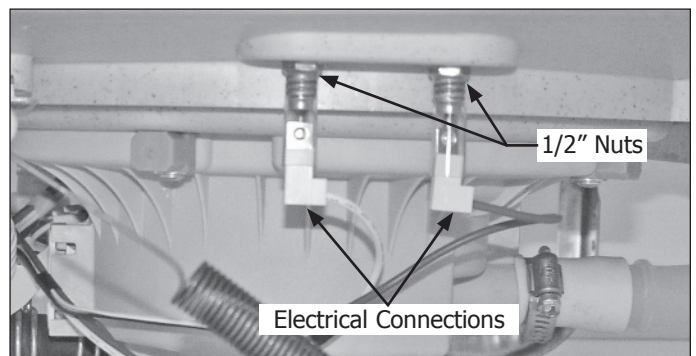

Figure 4-20.
3. Using a 1/2" open end wrench, remove the left hand thread nuts securing heater element to the bottom of the tub. (See Figure 4-20) The unit may need to be pulled from its installation to access the heater element nuts and electrical terminals.